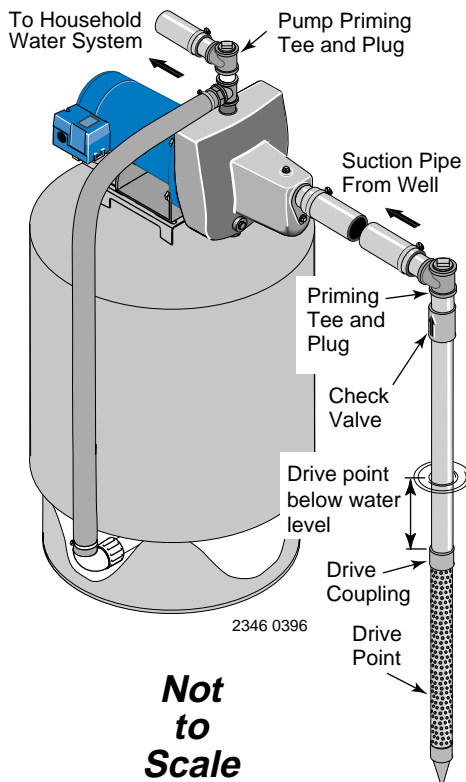

Figure 1: Driven Point Installation
WELL POINT (DRIVEN POINT) INSTALLATION (Figure 1)
- Step 3. Use the fewest possible fittings (especially elbows) when connecting the pipe from the well point to the pump suction port. The suction pipe should be at least as large as the suction port on the pump (include a check valve if your pump is not equipped with one – see Figure 1). Support the pipe so that there are no dips or sags in the pipe, so it doesn't strain the pump body, and so that it slopes slightly upward from the well to the pump (high spots can cause air pockets which can air lock the pump). Seal the suction pipe joints with teflon tape or a teflon based pipe joint compound. Joints must be air- and water-tight. *If the suction pipe can suck air, the pump cannot pull water from the well.* If one well point does not supply enough water, consider connecting two or three well points to one suction pipe.